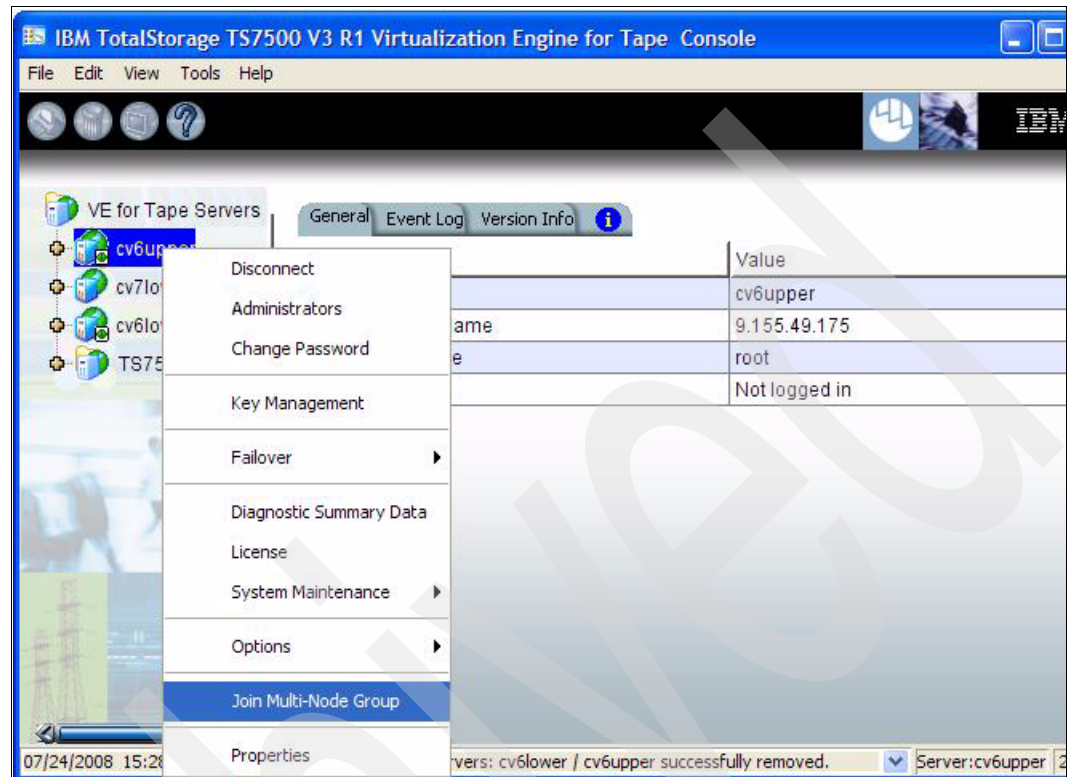

Figure 12-26 Joining a group
- To join the group, you must use the VE for Tape Console by right-clicking **<your TS7530 server>** and then selecting **Join Group**, as shown in Figure 12-26.